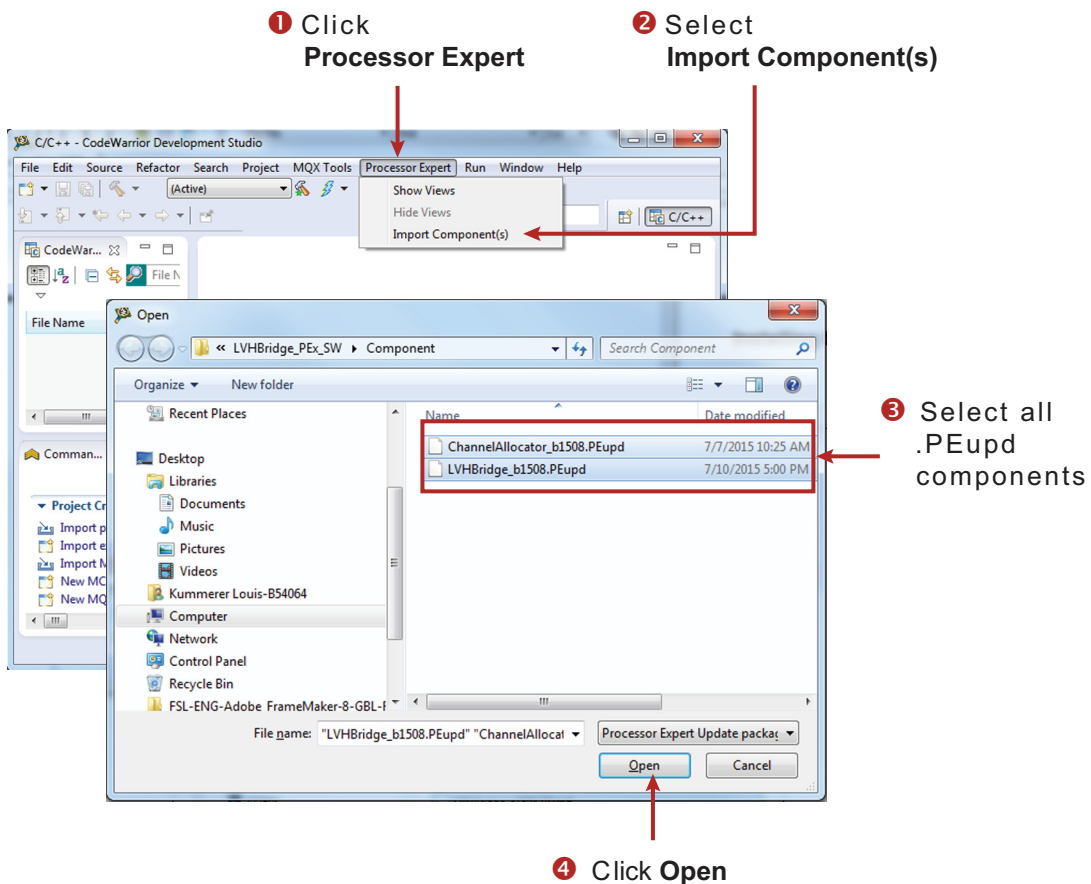

Figure 6. Import LVHBridge component
2. In the pop-up window, locate the component file (.PEupd) in the example project folder LVHBridge\_PEx\_SW\Component. Select **LVHBridge\_b1508.PEupd** and **ChannelAllocator\_b1508.PEupd** files then click **Open** (see Figure 6).